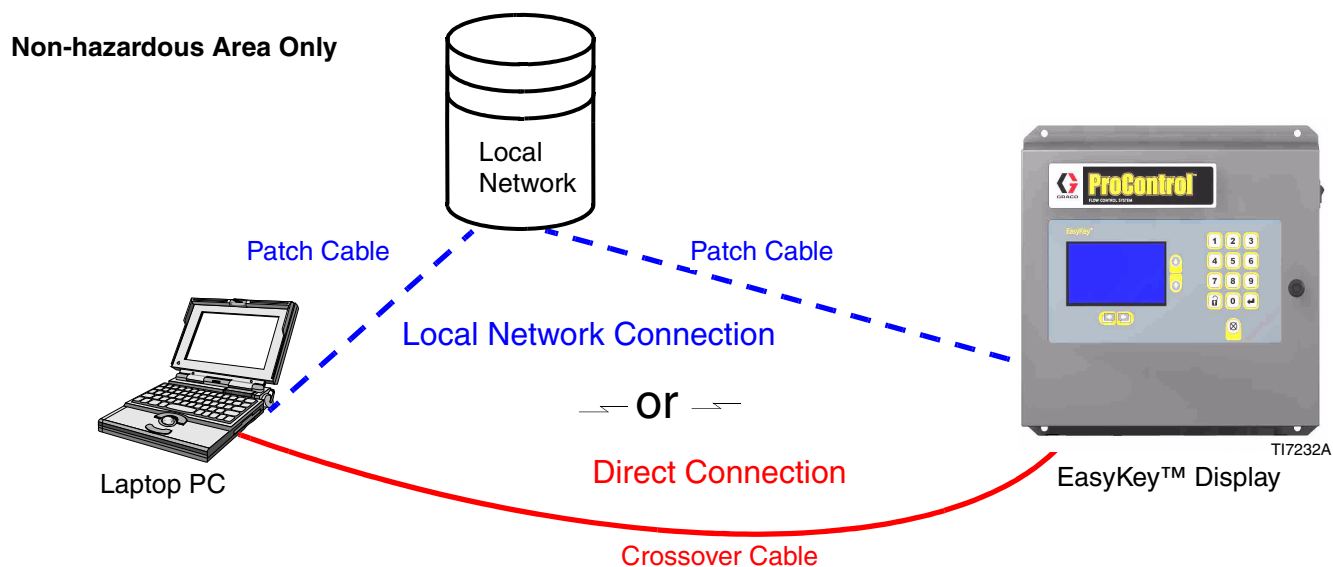

FIG. 1 Network Selection
- **Local Network Connection** (most common). Patch cable from the local network plugs into the ProMix Web Interface connection. See FIG. 1 and page 5.
- **Direct Connection** to the ProMix Auto or ProControl. Crossover cable from the PC plugs into the Pro-Mix Web Interface connection. (A crossover cable is provided with all systems.) See FIG. 1 and page 8.